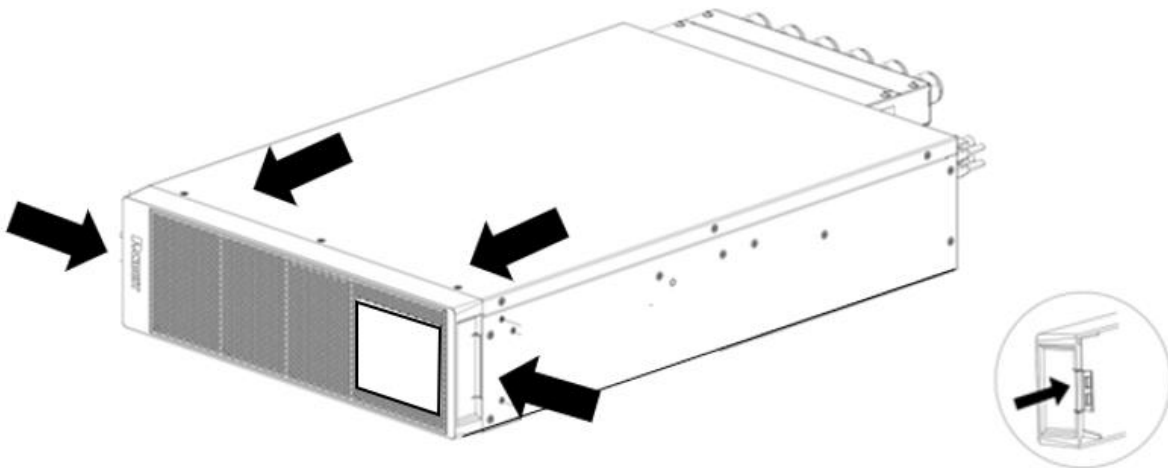

Figure 68: Press the Latches to Remove Faceplate
- 164. Press both sides of EBP faceplate until the latches release (see Figure 68). Then remove the faceplate form the front of the unit.